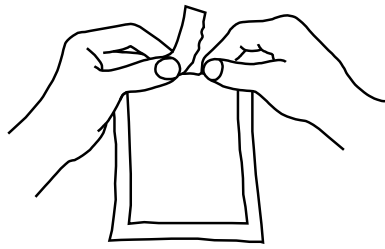
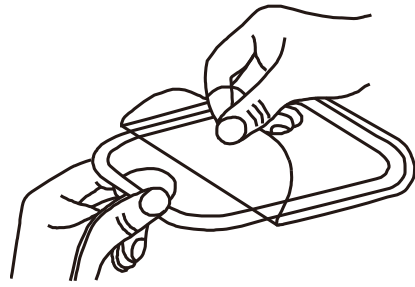

Figure 9 Tear the pads package
Figure 10 Peel the pad from plastic liner
1. Tear the pads package and take out the pads from the package, as shown in figure 9 and figure 10.